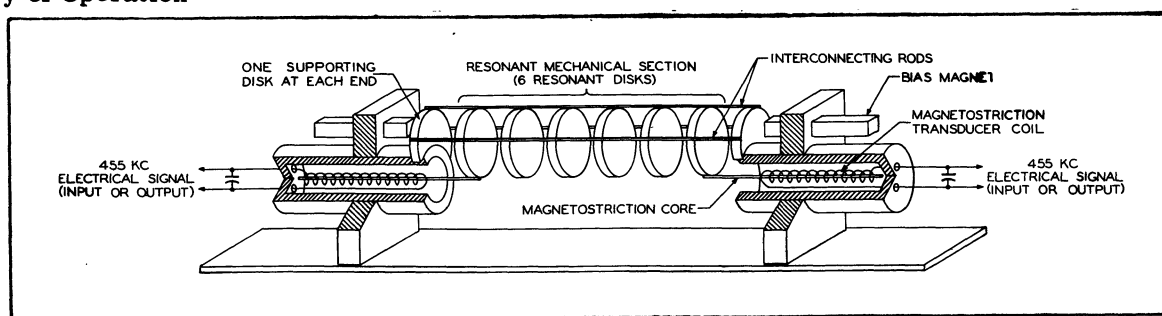

Figure 4-3. Collins Mechanical Filter, Functional Diagram
f. **MECHANICAL FILTER.** The functional schematic diagram of the Collins Mechanical Filter is shown in figure 4-3. The mechanical filter uses the principle of magnetostriction to convert oscillating magnetic energy to mechanical vibration. The magnetostriction transducer input coil is resonated at 455 kc. A nickel wire within this coil vibrates mechanically and transmits this mechanical energy to the first of a series of nickel alloy discs. The mechanical vibration of this first disc is coupled to succeeding discs by means of nickel-wire coupling elements. Biasing magnets at either end of the mechanical filter polarize the